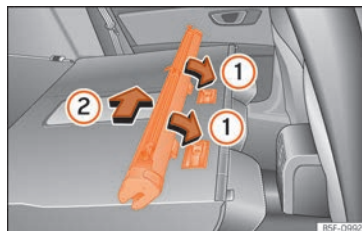

Fig. 181 Assembling the net partition in the rear seat backrests.
- Place the net casing in the rail slots in the direction of the arrows »» Fig. 181 ①.
- Push the casing towards the left side of the vehicle in the direction of arrow »» Fig. 181 ② and as far as it will go.
- Pull the net casing out approximately 5 cm in the opposite direction to the arrow »» Fig. 181 ②.
- Remove the casing from the rails by pulling in the opposite direction to the arrows »» Fig. 181 ①.